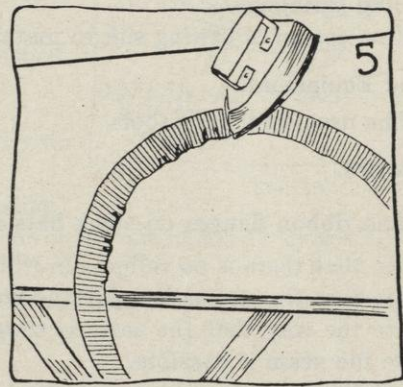

FIG. 5.
- Press any fullness toward the inner side of the circle (see Figure 5).